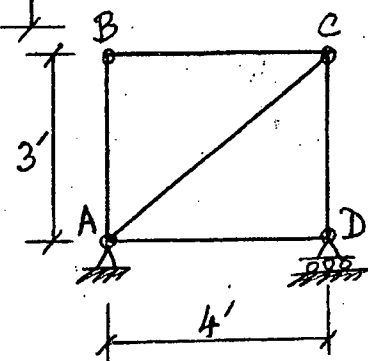

Fig. 11
12. Compute the amount of translation and its direction of the joint at B of the truss shown in Fig. 11. The temperature of AB and CD falls by 50°F and that of all other members rises by 80°F. Given: $\alpha_t = \frac{1}{1,50,000}$ 1/°F (21)